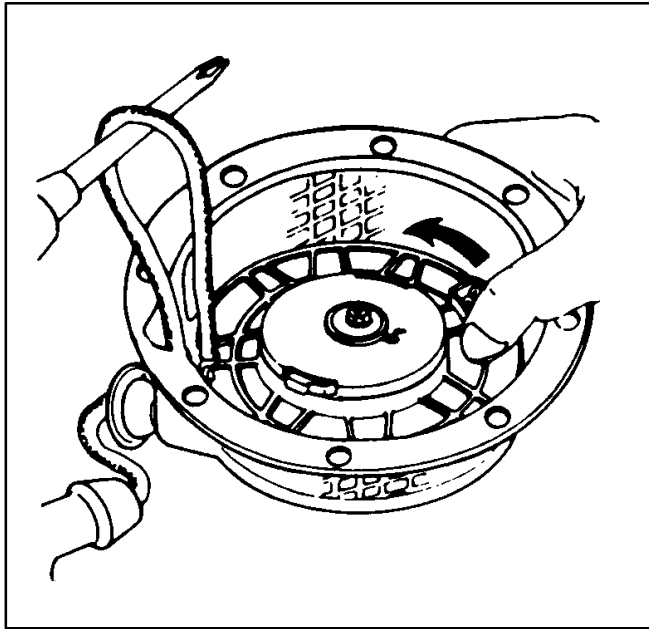

FIGURE 6-15. STARTER ROPE REMOVAL
3. Hold the reel with pressure in the direction of the arrow shown in Figure 6-15 to prevent it from unwinding. Remove the rope from the reel, keep pressure on the reel and carefully allow the reel to slowly unwind until it stops rotating.
5. Carefully wind the reel in the direction shown in Figure 6-15 the number of revolutions counted during disassembly. Hold the reel to prevent it from unwinding.